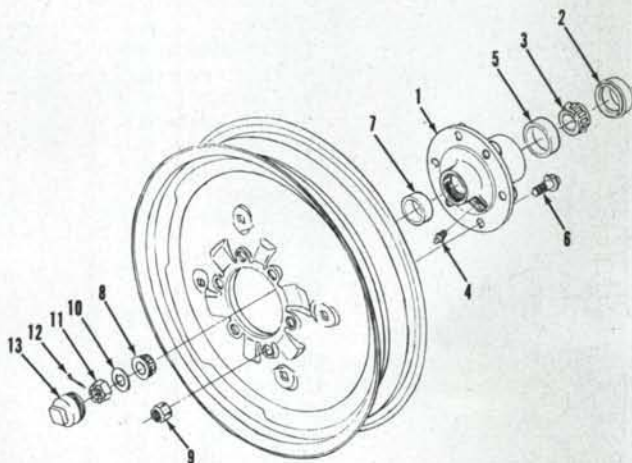

Fig. 1—Exploded view of front wheel hub used on two-wheel-drive models.
1. WHEELS AND BEARINGS. To remove front wheel hub and bearings, raise and support the front axle extension, then unbolt and remove the tire and wheel assembly. Remove cap (13—Fig. 1), cotter pin (12), slotted nut (11), washer (10) and outer bearing cone (8). Slide hub assembly from spindle axle shaft. Remove grease retainer (2) and inner bearing cone (3). Hub is slotted to facilitate removal of bearing cups (5 and 7). Pack wheel bearings liberally with Ford M1C137-A, M1C75-B or equivalent grease. Reassemble by reversing disassembly procedure. Grease retainer (2) and inner bearing cone (3) should be positioned on spindle. Tighten slotted nut (8) to a torque of 27-40 N·m (20-30 ft.-lbs.), then rotate hub several turns. Retighten nut (8) to 61-74 N·m (45-50 ft.-lbs.), then back nut off less than two flats and install cotter pin (12). Be sure to install cap (13) securely.